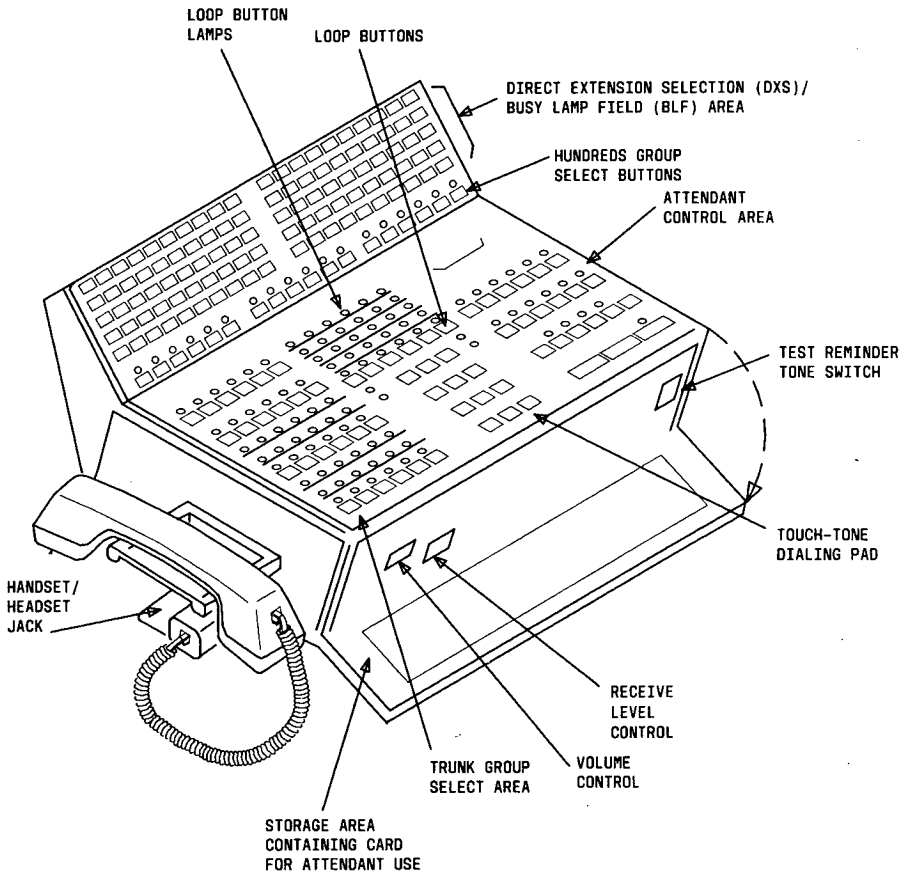

Figure 5. TYPICAL ATTENDANT CONSOLE
It is necessary to administer the console(s) (Figure 5) before X-RAY can test the console LEDs, buttons, and audible signals.
6. Open front panel on console (Figure 5) and depress **LTEST** switch. All LEDs should light and ringer should sound.